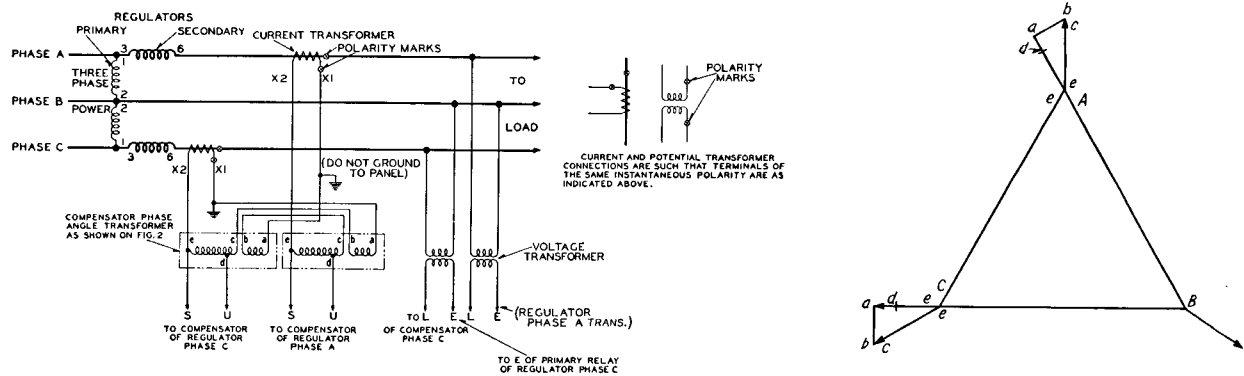

FIG. 20—SCHEMATIC DIAGRAM FOR PHASE ANGLE TRANSFORMERS
93. The third current transformer may be replaced with two small phase angle transformers as shown schematically in Fig. 20. The use of either the third current transformer or the phase angle transformers is necessary so as to obtain the proper phase relation between the current and voltage in the compensator circuit. The line current and the line to line voltage of a three-phase system are 30 degrees out of phase at unity power factor and it is necessary that they be in phase in the compensator circuit. The vector diagram shown in Fig. 20 is drawn for unity power factor.